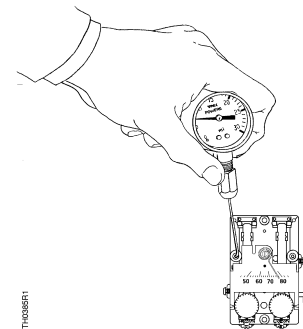

Figure 5. TH192 DN and DNV Output Pressure Test Port.
The output pressure test port (*Figure 5*) is accessible without removing the thermostat cover through the 8th opening from the top as follows:
3. Moisten the needle and insert the test gauge and needle adapter in the test port (*Figure 5*). Read the control pressure.
3. Moisten the needle and insert the test gauge and needle adapter in the test port (Figure 5). Read the control pressure.
Before troubleshooting the thermostat per Table 1, make certain there is clean dry supply air at 18 psi (124 kPa) minimum. Use the test probe gauge and needle adapter to measure the control pressure at output pressure test port (Figure 5). The output pressure test port is accessible without removing the thermostat cover through the 8th opening from the top as follows: